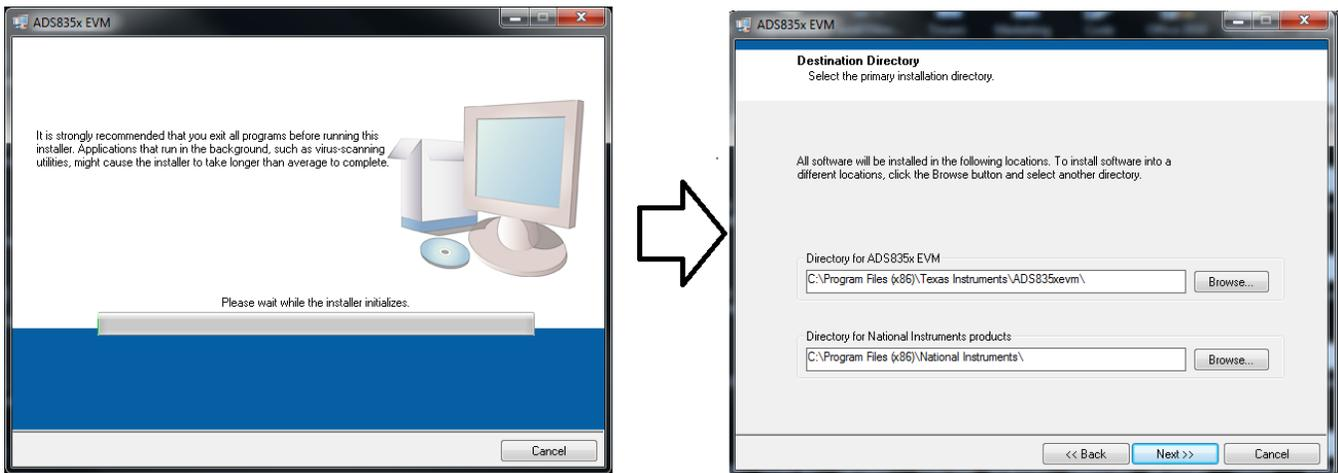

Figure 11. Welcome Screen and Destination Directory Screens
5. A prompt appears with the destination directory; select the default directory under: ... \Program Files(x86)\Texas Instruments\ads835xevm\, as shown in Figure 11.